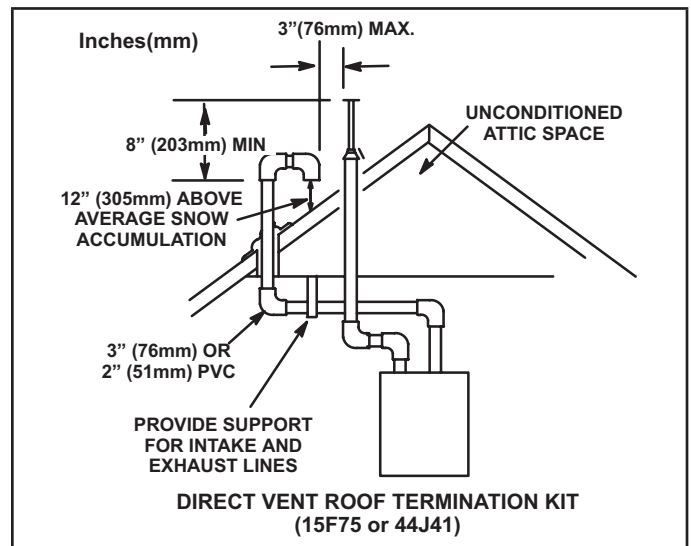

FIGURE 34
Intake and exhaust pipes may be routed either horizontally through an outside wall or vertically through the roof. In attic or closet installations, vertical termination through the roof is preferred. FIGURE 34 through FIGURE 42 shows typical terminations.
- 3 - On roof terminations, the intake piping should terminate straight down using two 90° elbows (FIGURE 34).